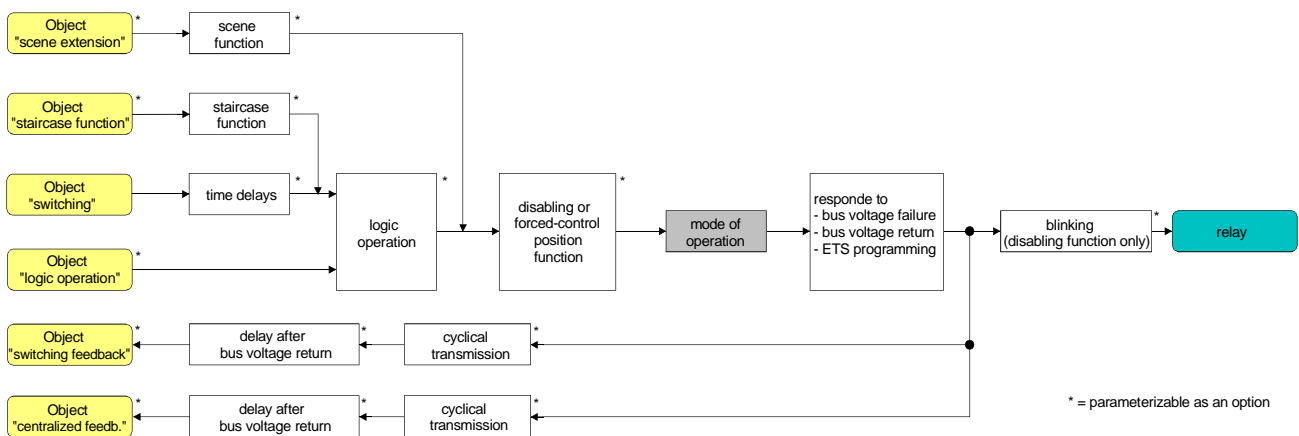

Fig. 6: Functional diagram "Mode of operation"
- ❶ The logic switching state ("on - 1" or "off - 0") is set by the communication object "Switching" and influenced by the functions that can be optionally activated (e.g. timing/staircase functions, logic operations, disabling/forced-control position functions, scenes – cf. Fig. 6).
- ❶ A switching state set after bus voltage return or after ETS programming will be tracked in the feedback object depending on the "Mode of operation" parameter.